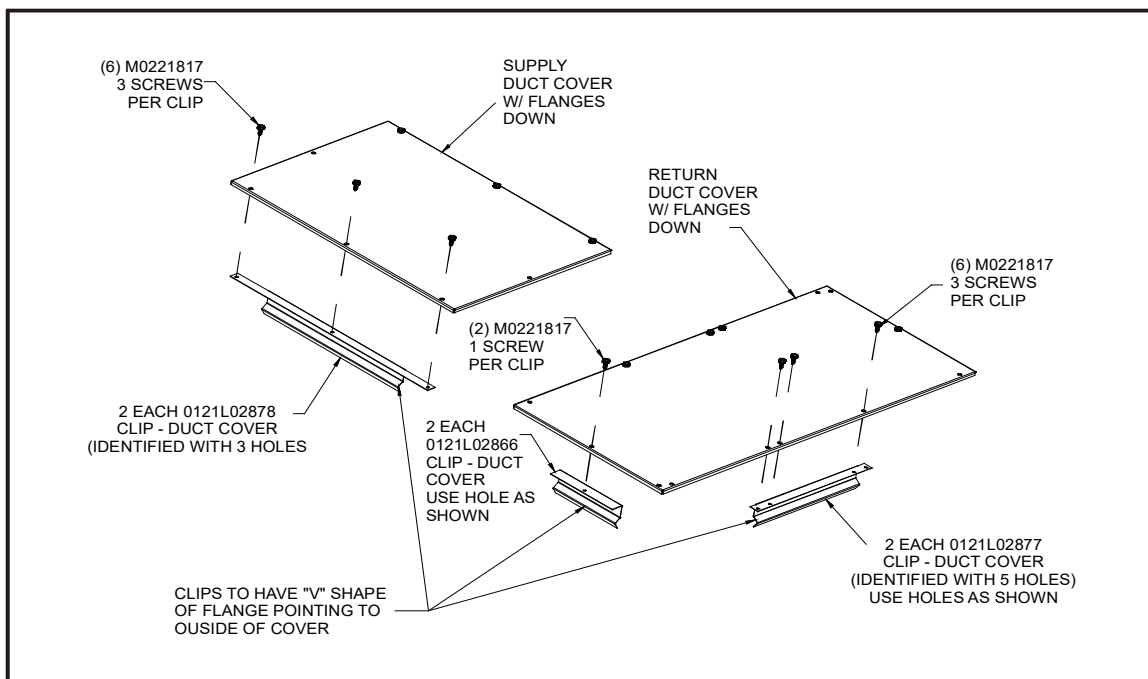

Figure 1 (3-6 Ton Models)
3. With the insulated side of the panel facing up, attach the clips as shown in Figure 1. The clips containing 1 hole per clip are for return air panels.